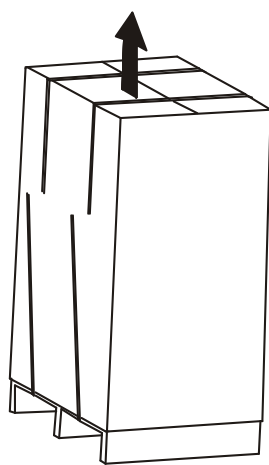

Fig.1
- 1) Remove the wrapping trap and the packing carton (Refer to Fig.1)